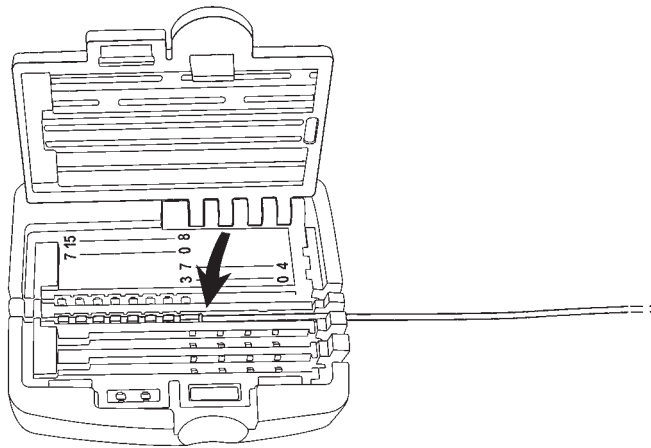

FIGURE 25
- 1 Making sure that the lead contacts are aligned with the connector electrical contacts, connect the snap-lid connector cable to the lead(s) (FIGURE 25) and the ENS.